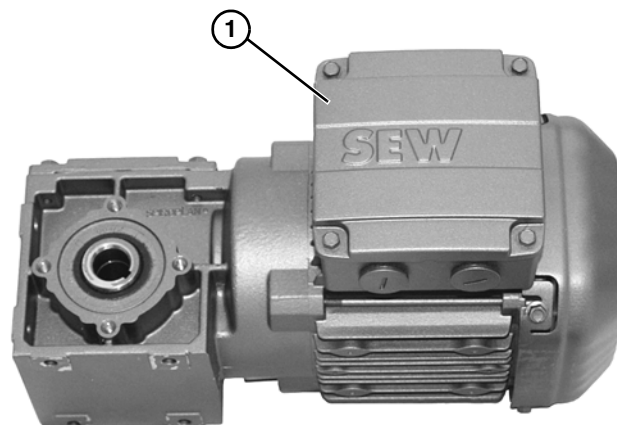

**Figure 11**
9. Install cover (**Figure 11, item 1**) with four (4) screws (**Figure 11, item 2**). Tighten screws to 35 in-lb (4 Nm).